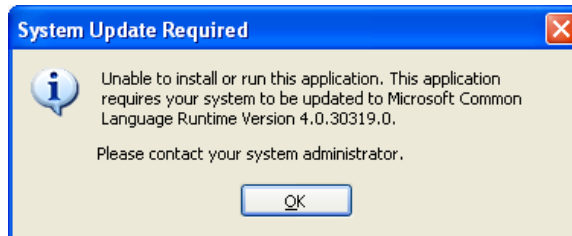
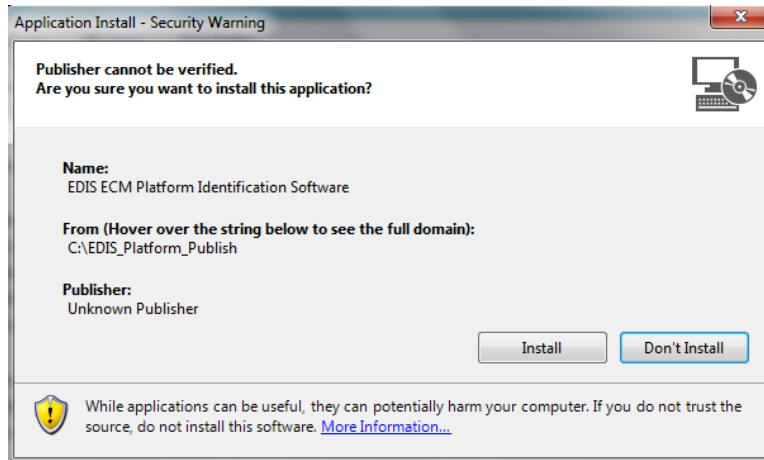

Figure 1: System Update Required Prompt
Figure 4: EDIS Platform Identification Software Installation- Security Warning
To install the software, double click the setup.exe under the installation directory. This program uses the Microsoft .NET framework. Computers that have the .NET framework installed will have less installation prompts and will install quicker; all or some of the prompts shown in Figure 1-Figure 4 will be displayed depending on the Windows Operating System (OS) and .NET components installed on the client computer. Answer the prompts appropriately to install and retrieve the necessary supporting software components.